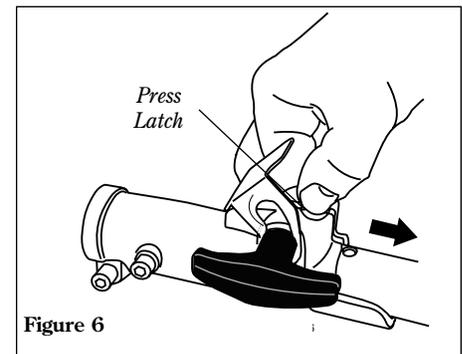

Figure 6
2. Press down on the latch with your finger or thumb. This releases the coupler lock. See Figure 6.